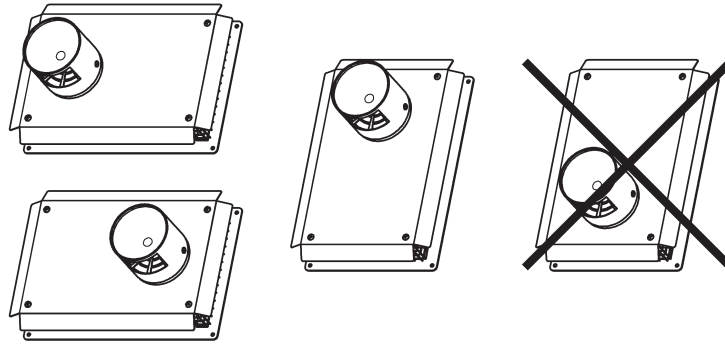

Figure 12: Allowed SST installation orientations
- The SST shall only be installed with the vent and intake pipes horizontally beside each other or vertically with the vent pipe on top as shown in Figure 12. The vent pipe cannot be installed below the intake. The vent cap must be installed with the openings directed up and down, as shown in Figure 12, and not side to side.